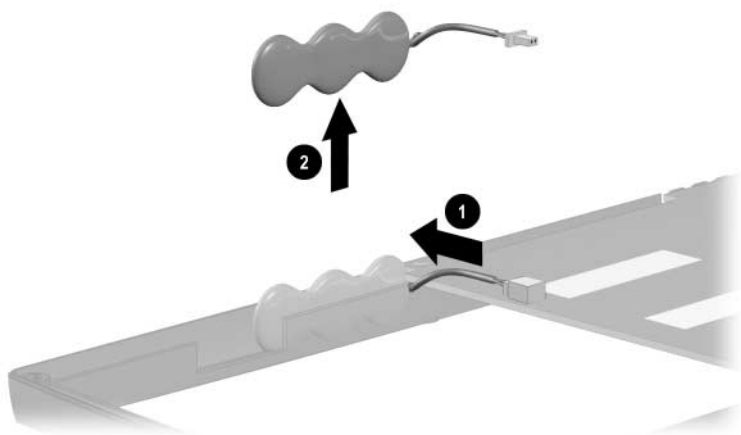

Figure 5-15. Removing the Real Time Clock Battery
2. Disconnect the RTC battery cable from the system board ❶ (Figure 5-15).
3. Remove the RTC battery from the slot in the base enclosure ❷.